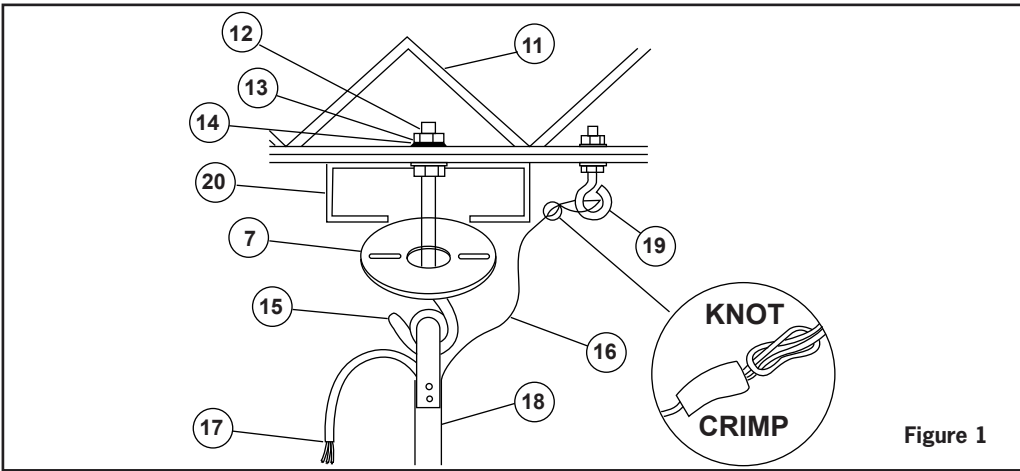

Figure 1
4. To reduce the risk of personal injury, install the safety cable (per Fig. 1).
1. Using Machine Threaded Hooks for Steel Frame Ceiling (Fig. 1)